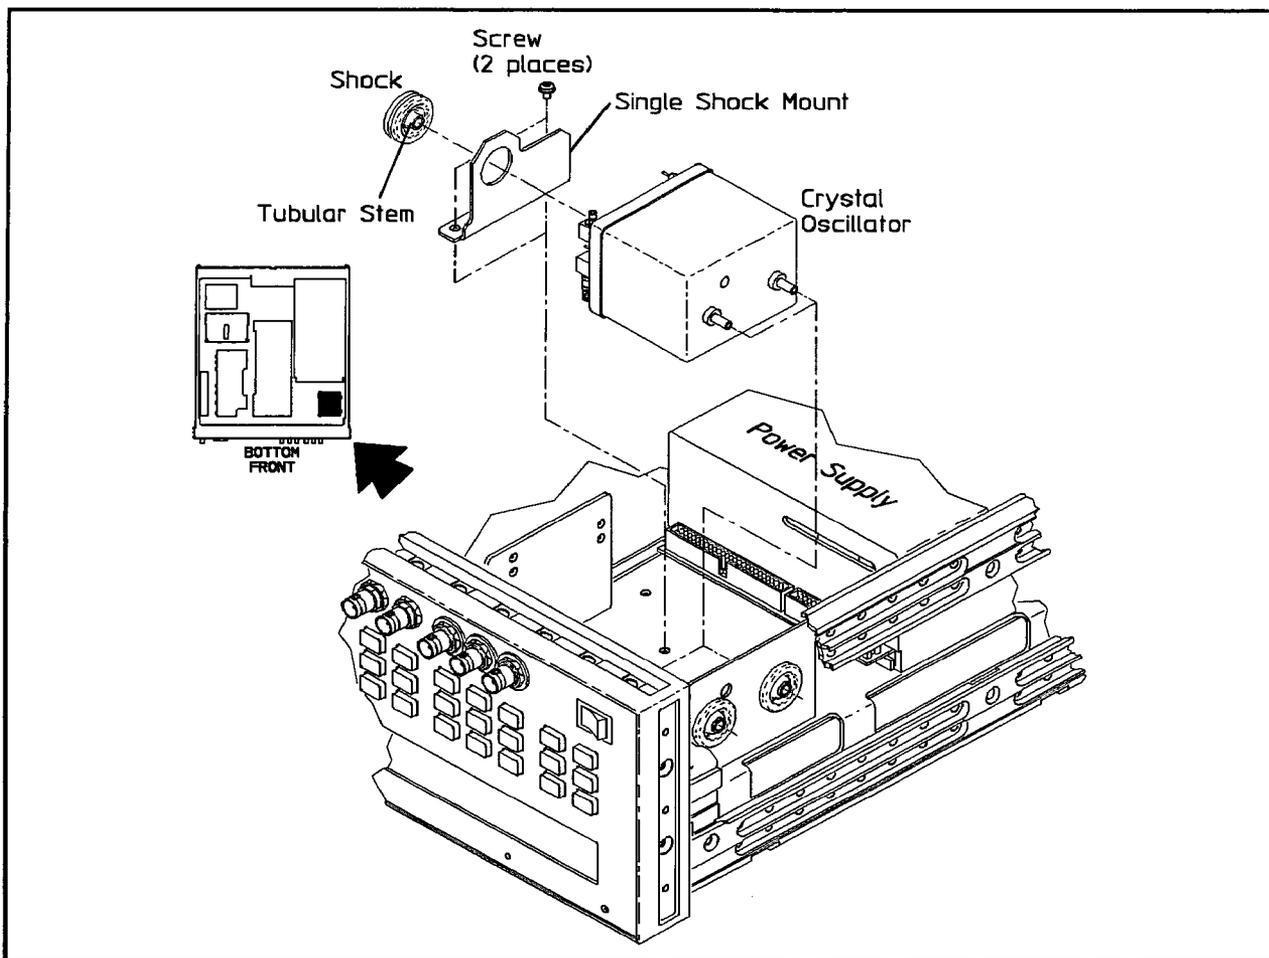

Figure 5-24. Crystal Oscillator Removal
1. Using a size 10 TORX® screwdriver, remove the two (2) Crystal Support screws from the single shock mount assembly. See Figure 5-24.